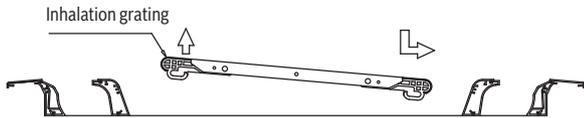

Fig. 5-11
- 3) Open the inhalation grating (about 45°), and remove the other side, refers to Fig. 5-11.